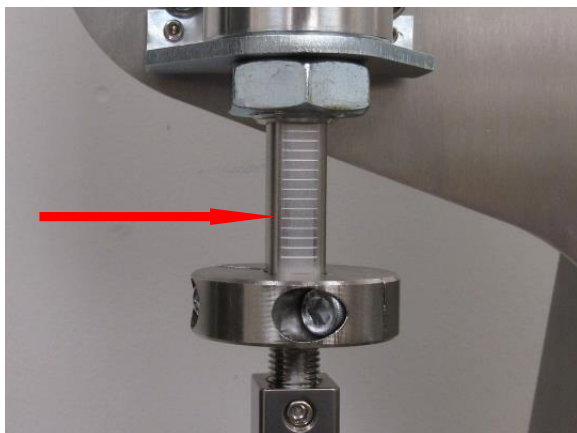

Figure 3
- The graduations on the cylinders represent approximately 0.072 of an inch. (**Figure 3**)
- Re-adjust the stop collars to the desired opening you need and tighten the bolts. (**Figure 3**) *See Section 3.2 for details.*